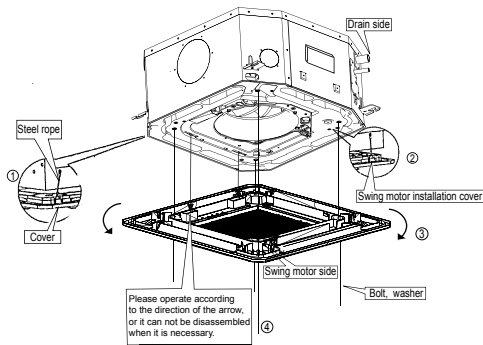

Fig. 5-11
- Align the swing motor on the panel to the tubing joints of the body properly. (Refer to Fig. 5-11)
- Hang the four fixed rope of the main body to the installation cover and the other three covers of the swing motor: (Refer to Fig. 5-11 ① and ②)
- Install the panel on the main body with bolt (M5×16) and washer. (Refer to Fig. 5-11④)
- Regulate the panel in the direction of the arrow in Fig. 5-11.③ slightly to fit the panel's center to the center of the ceiling's opening. Guarantee that hooks of four corners are fixed well.